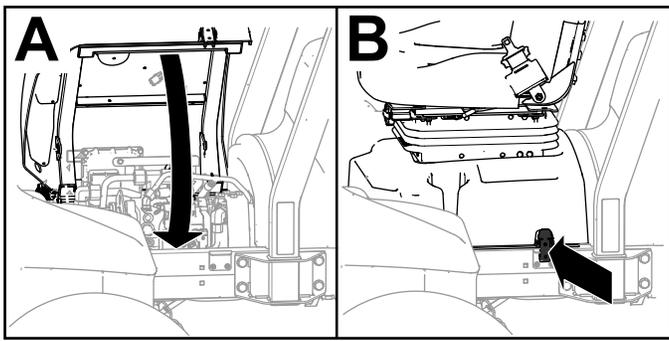

Figure 95
4. Rotate the seat and seat base closed and latch the base (Figure 95).